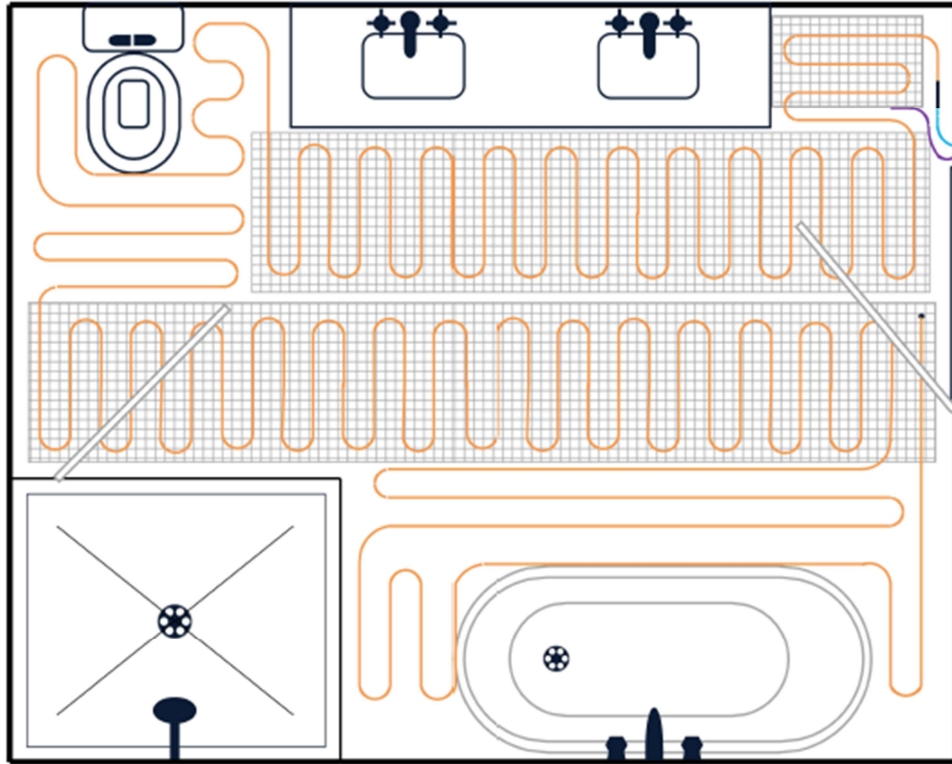

Figure 2
- Measure and mark out the area to be heated to establish the square meterage of the element that you require. (refer page 1 FIG 2)
Note: Refer page 3 FIG 2 drawing which illustrates a typical installation layout.